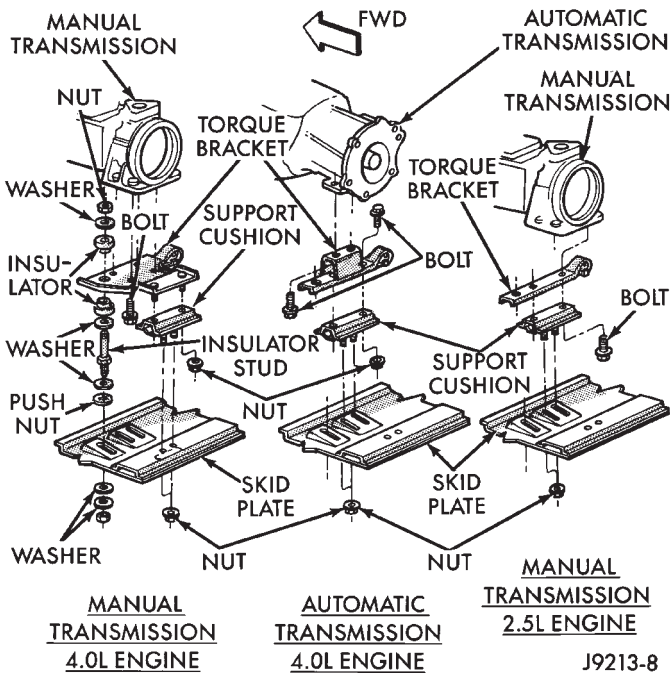

Fig. 7 Transfer Case Skid Plate
- (1) Raise and support the transmission.
- (2) Remove the nuts that attach the transmission support cushion and torque bracket to the skid plate (Fig. 7).